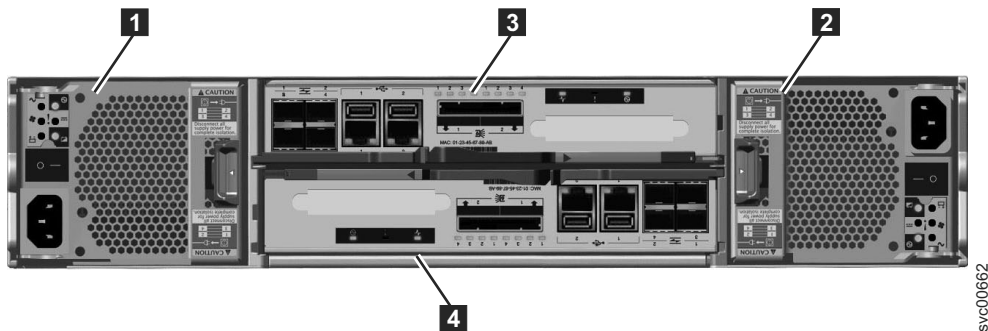

Figure 9. Rear view of a model 2076-112 or a model 2076-124 control enclosure
Figure 9 shows the rear view of a control enclosure and identifies the location of the power supply units and the canisters.
- Two canisters are housed in the middle of the enclosure. Each canister is known as a node canister. The upper canister, as shown in Figure 9, is labelled **3**, and the lower canister is labelled **4**. Canister **3** is top side up, and canister **4** is inverted, or top side down.